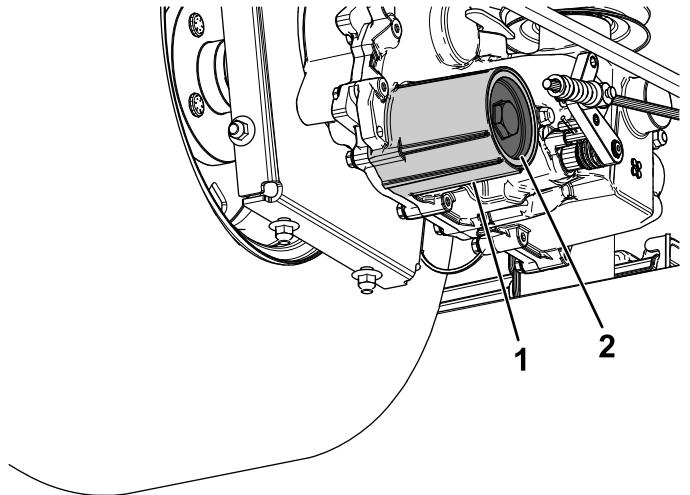

Figure 86
7. Remove the hydraulic-fluid filter cover from the transaxle to drain the fluid (Figure 86).